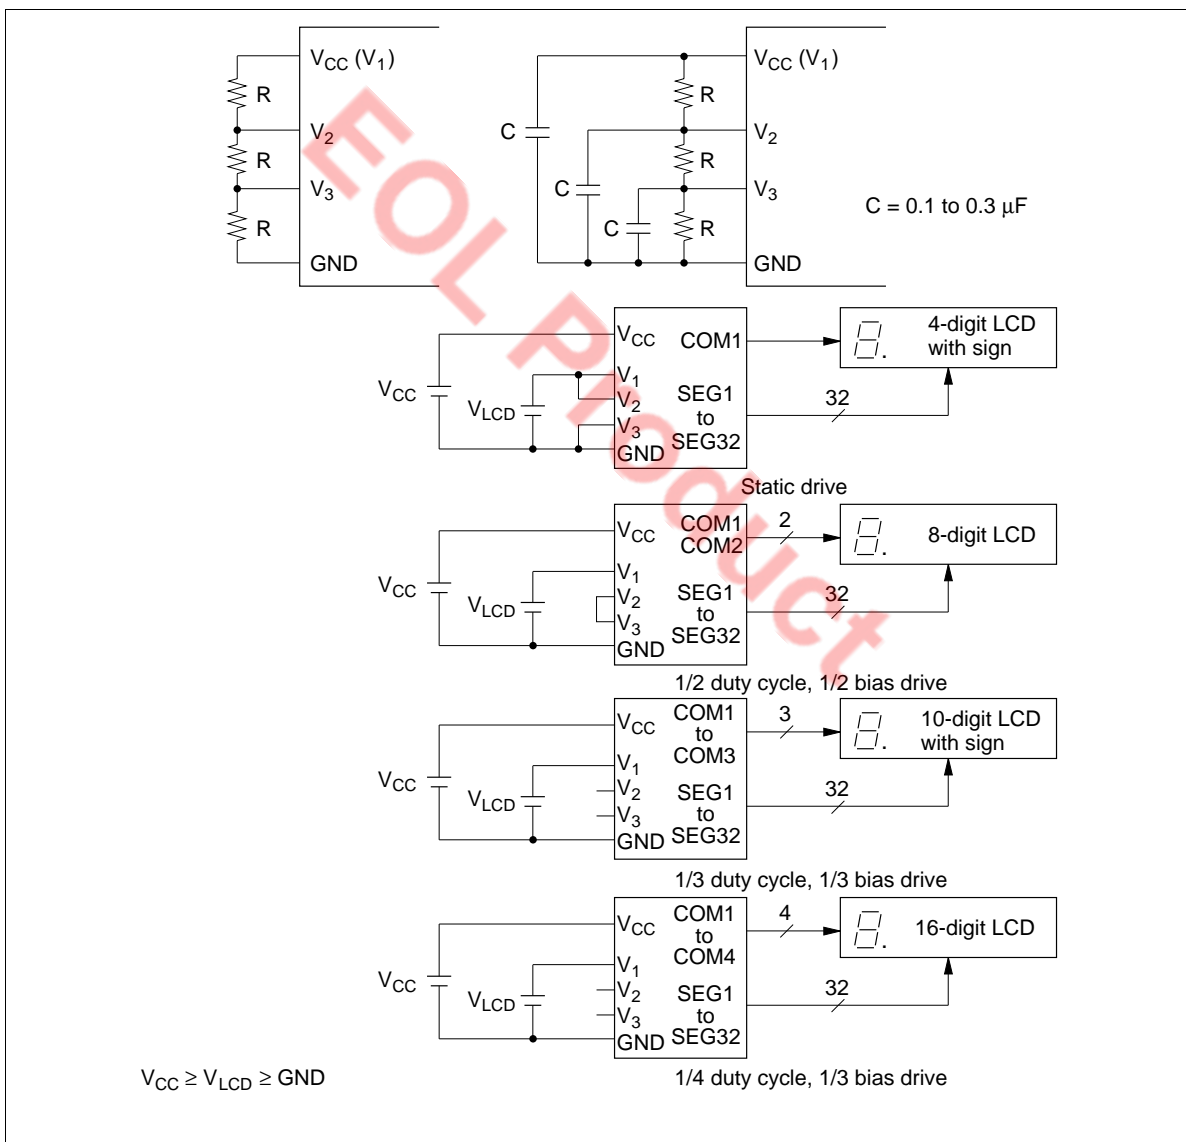

Figure 38 LCD Connection Examples
**Large Liquid-Crystal Panel Drive and  $V_{LCD}$ :** To drive a large-capacity LCD, decrease the resistance of the built-in division resistors by attaching external resistors in parallel, as shown in figure 38.